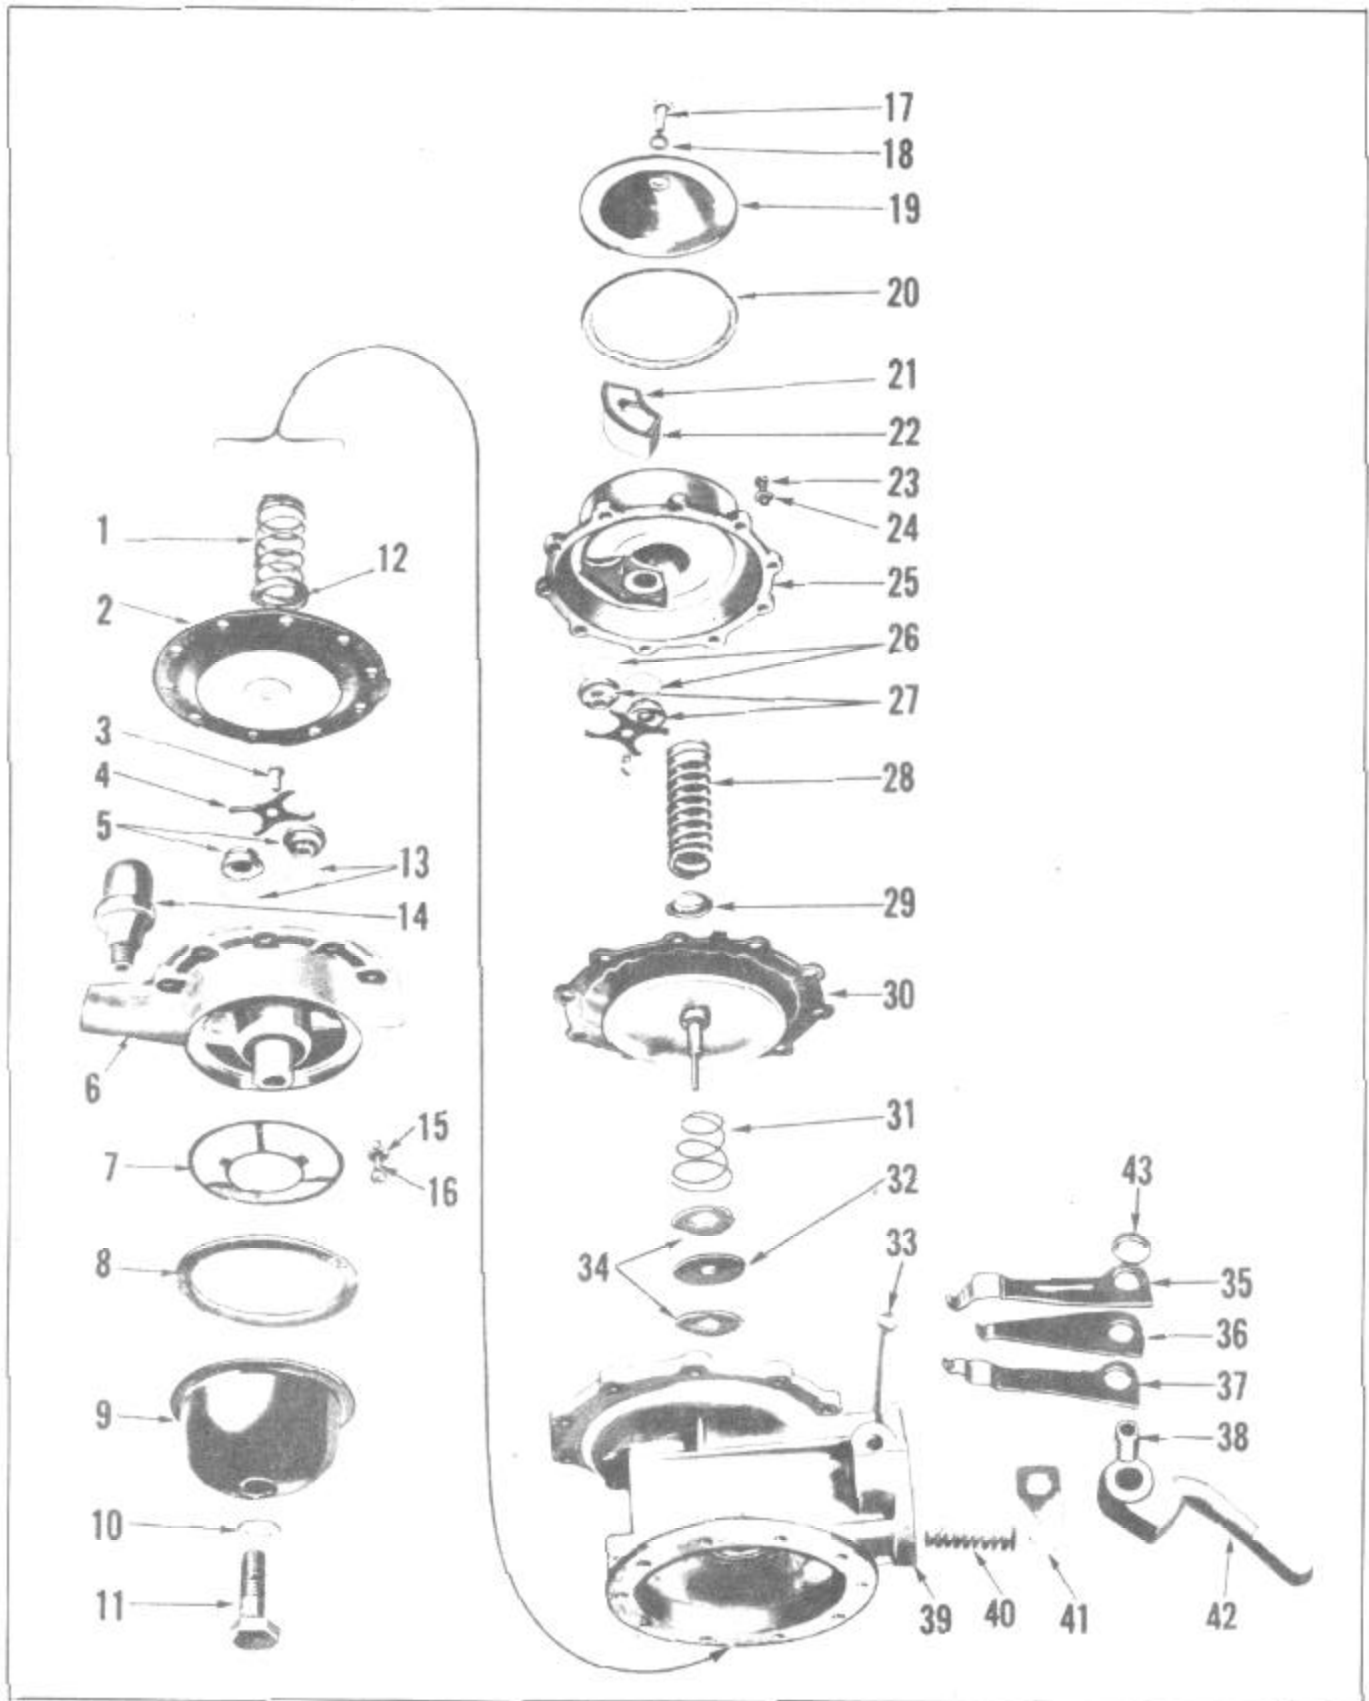

FIGURE 86
1. Mark edges of fuel cover (25), Figure 86, and body diaphragm flanges with a file. The parts may then be reassembled in the same relative position.
2. Remove fuel cover screws (23) and lock-washers. Separate cover from body by jarring cover loose with a screwdriver handle. Remove diaphragm spring (28) and retainer (29). Remove valve cage retainer screw and remove retainer and cage assemblies (27) and gaskets (26).
3. Mark edges of vacuum cover (6) and body diaphragm flanges. The parts may then be reassembled in the same relative position.
4. Remove two screws from opposite sides of the vacuum cover, and substitute for them two No. 10-32 x 1-1/2 inch fillister head screws. Turn the two long screws all the way down, and then remove the balance of the regular cover screws. Alternately back off the two long screws, a few turns at a time, until the force of the heavy vacuum diaphragm spring is no longer effective. Remove the two long screws, the cover assembly, diaphragm spring (1), and spring retainer (12).
5. File riveted end of rocker arm pin (33) flush with steel washer, or drill of end with 3/8" drill. Drive out rocker arm pin with a drift punch. Wiggle rocker arm (42) until links unhook from both diaphragms. Then remove rocker arm spring (40), rocker arm, and the link assembly.
6. Remove bushings (38) from rocker arm before removing rocker arm (42), two vacuum links (35 and 37), one fuel link (36), link spacer (41), and link washer (43).